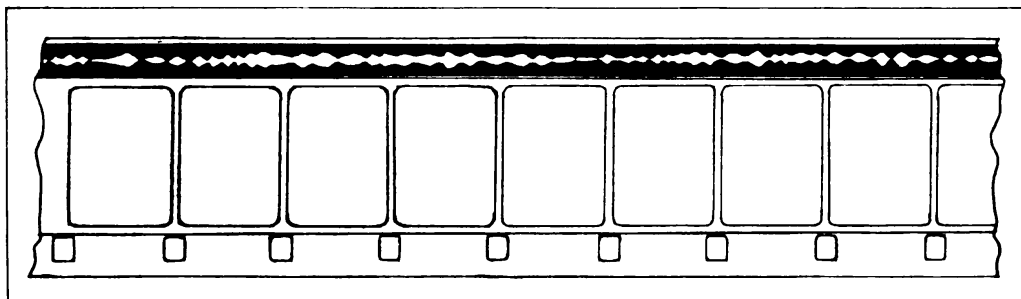

Figure 13—Sound Track on 16 mm. Film
a. The sound track on the film consists of a narrow path near the edge of the film opposite the sprocket holes. This path has been exposed over part or all of its width depending upon the variations in the sound that was recorded. The exposed portions of the path are light, while the unexposed portions are dark. See Figure 13 for a pictorial representation of the sound track. A sound track of this type is known as a variable area track.